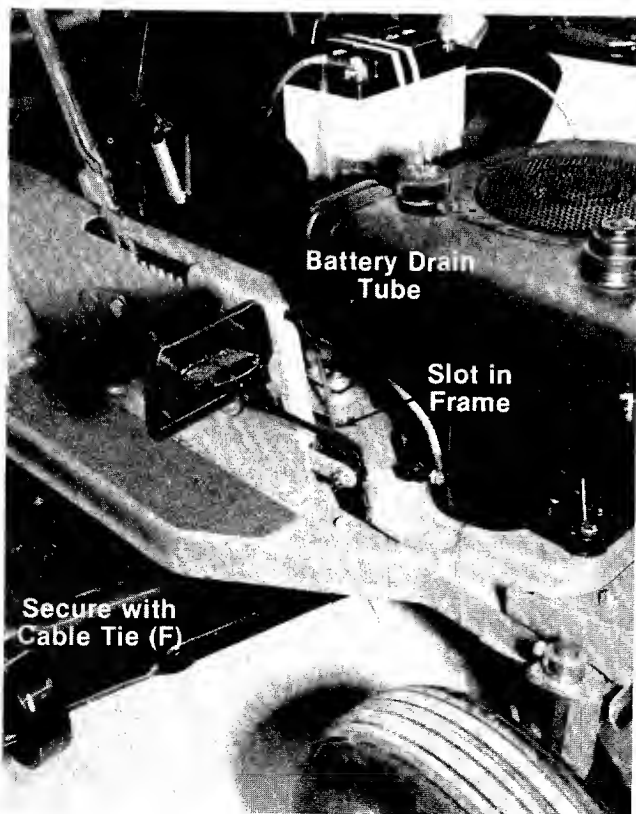

FIGURE 14.
15. Feed the plastic drain tube through the slot in the frame as shown in figure 14.
16. Using cable tie (F), secure battery drain tube to the shoulder bolt at the brake pedal, underneath the deck. Cut off excess end of cable tie. See reference number 40 on page 26.